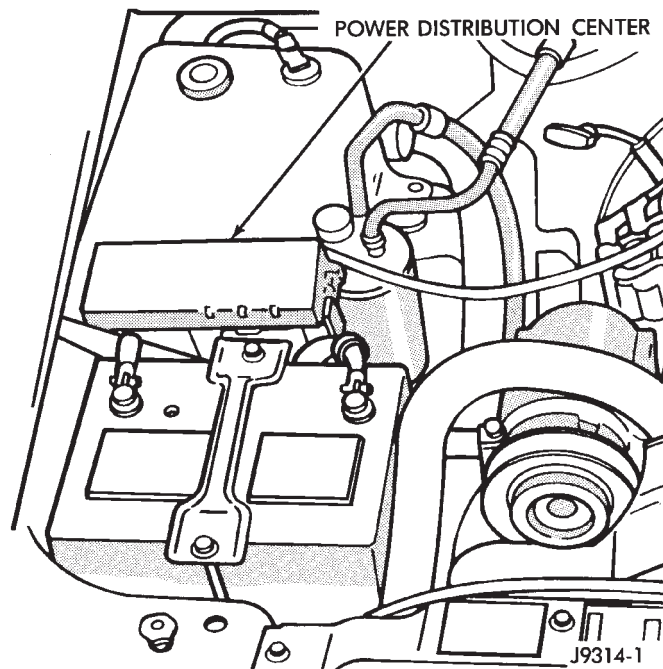

Fig. 34 Power Distribution Center (PDC)
(2) Inspect the battery cable connections. Be sure that they are clean and tight.
(3) Inspect fuel pump relay and air conditioning compressor clutch relay (if equipped). Inspect the ASD relay connections. Inspect starter motor relay connections. Inspect relays for signs of physical damage and corrosion. The relays are located in the Power Distribution Center (PDC) (Fig. 34). Refer to label on PDC cover for relay location.